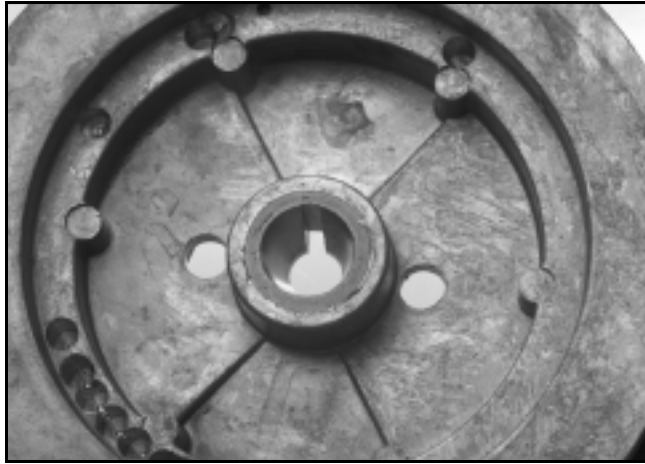

Figure 57
6. Inspect the flywheel for cracks or damage and the strength of the magnets using a iron object. Replace as necessary. (See Figure 57.)